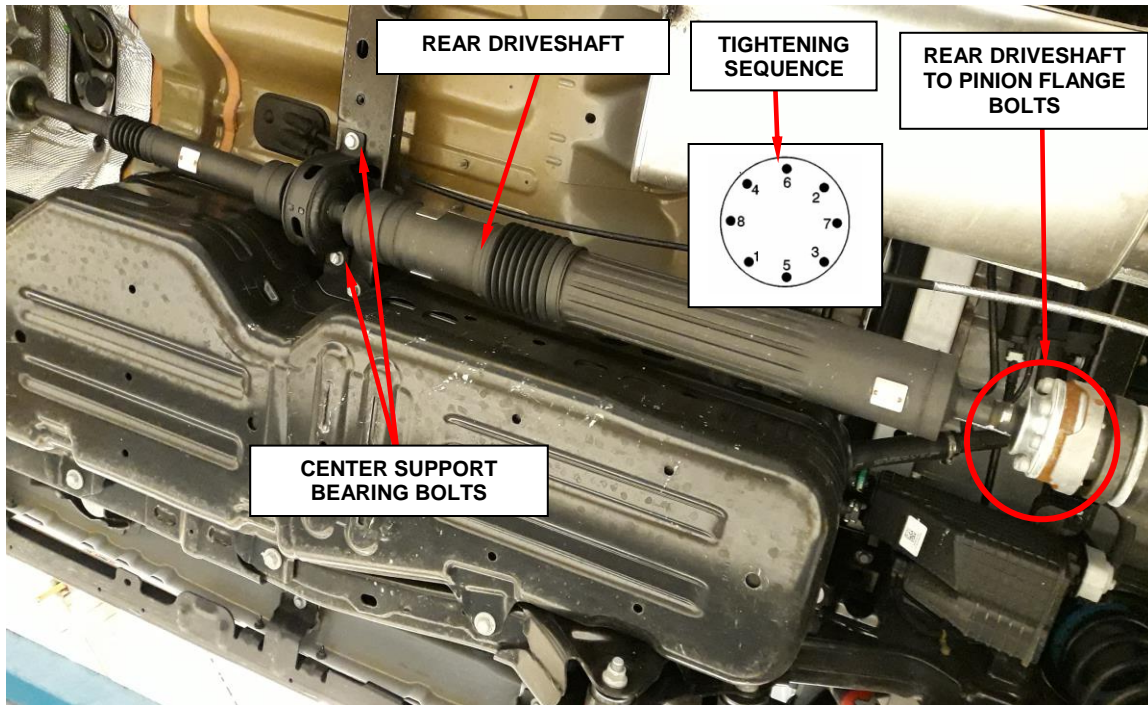

Figure 1 – Rear Driveshaft
2. Remove and **DISCARD** the rear driveshaft to pinion flange bolts (Figure 1).
4. Remove the two center support bearing bolts and remove the driveshaft from the vehicle and discard (Figure 1).
5. Align the **NEW** driveshaft to the cross member mounting bracket and insert the driveshaft end into the axle mounting flange, then install the two center support bearing bolts, tighten to 62 N·m (46 ft. lbs.) (Figure 1).
7. Install the **NEW** driveshaft to pinion flange bolts, tighten the bolts in a star pattern to 39 N·m (29 ft. lbs.) (Figure 1).